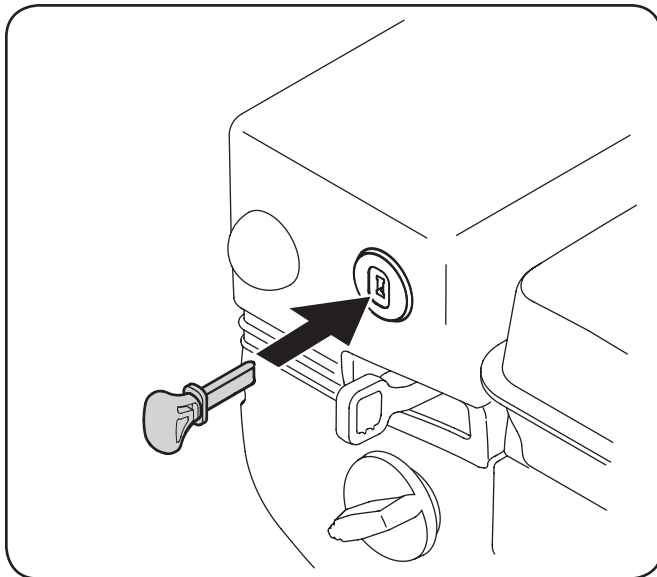

Figure 5-1
2. Insert ignition key fully into slot, Fig. 5-1. Make sure it snaps into place. **DO NOT** turn ignition key. The engine cannot start unless the key is inserted into ignition switch.